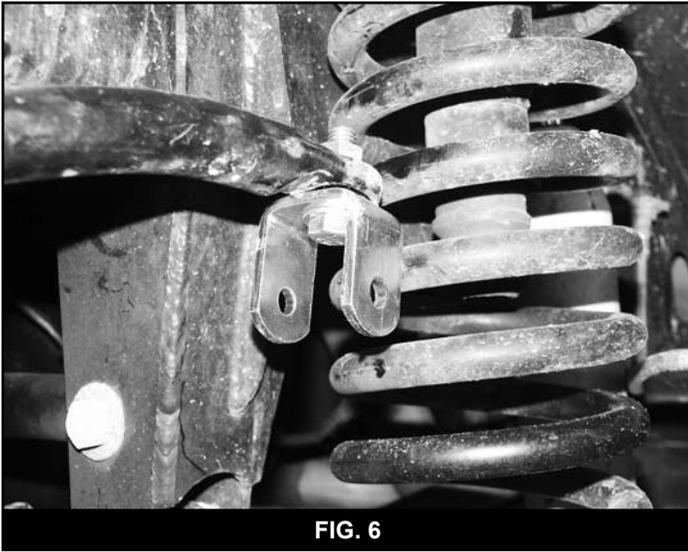

FIG. 6
37. Install the provided upper u-bracket (01325) to the sway bar using the original link mounting hole with a 7/16" x 1-1/2" bolt, nut, 7/16" SAE and 7/16" USS washers. Install the bolt up through the u-bracket with an SAE washer into the sway bar. Fasten with the nut and USS washer. Position the bracket so that the thru-holes are parallel to the stud on the axle (Fig 6).